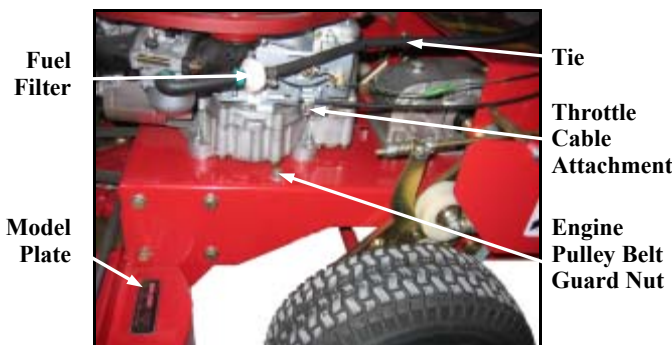
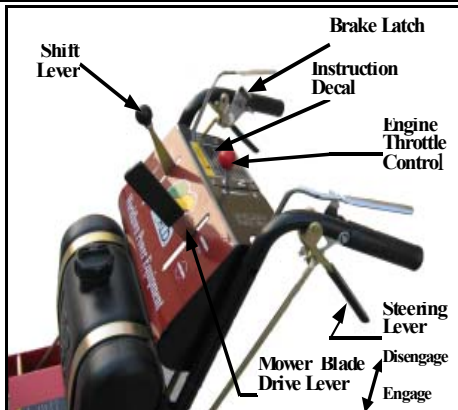

FIG 1 Throttle and Fuel Line Attachment
FIG 3 Mower Controls
Record (See FIG.1)
The Handlebars and Control Linkages may not be completely installed on the Mower and Connectors may be disengaged. Attach the Handlebars with two bolts on each side as shown in FIG 9. Attach Throttle Cable to the Engine as shown in FIG 1 and in the Engine Operating & Maintenance Instructions. Each of the Control Rods must be connected as shown in FIG 3 & 10. Follow the instructions to properly adjust each of the controls. The Fuel Line should be connected to the Engine Fuel Filter and attached to the Engine with one Tie. Tighten the Fuel Clamp Screw FIG 1. Attach the Discharge Chute FIG 7. Attach the LH & RH Front Caster Wheel Arm Assembly to the Mower Deck with 4 bolts in each Arm.
3. Grease Fittings are provided on important parts requiring lubrication. See FIGS 3 & 10.
STARTING THE ENGINE FIG 3
1. See that the Blade Drive Lever is disengaged and the Transmission is in neutral. FIG 3.
STOPPING THE ENGINE FIG 3
BLADES AND WHEELS DRIVES FIG 3
1. Be sure that Mower Blade Drive Lever is disengaged and both Brake Latches are locked. FIG 3.